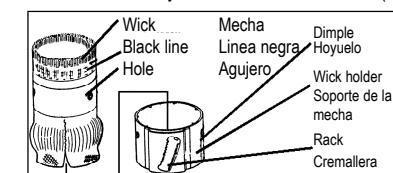

Figure 5/Figura 5
6. Using a siphon pump drain the kerosene from the sub-fuel tank and wipe tank clean with a paper towel & fresh K-1 kerosene. Remove the old wick from the wick holder by pushing toward the center. Discard of properly. If your heater has a removable metal wick holder, be careful that you do not discard it. (Figure 5)
- (holes) If your wick has holes, make sure these holes line up with dimples on the wick holder. (Fig. 5)
(Agujeros) Si su mecha tiene agujeros, asegúrese de que estos agujeros están alineados con los hoyitos del aguantador de mecha. (Fig. 5)